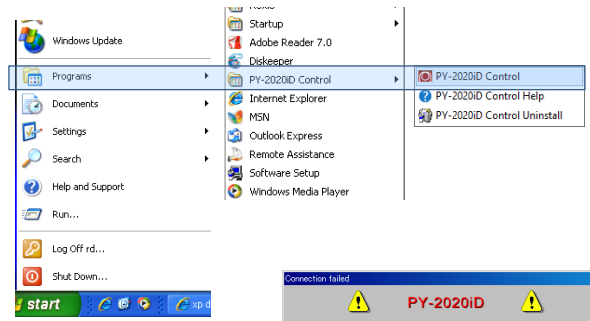

Fig. 6.2
- 6.2 Start PY-2020iD Ver. 3.04 software application by selecting “**Programs**”-“**PY-2020iD Control**”-“**PY-2020iD Control**” (Fig. 6.2).